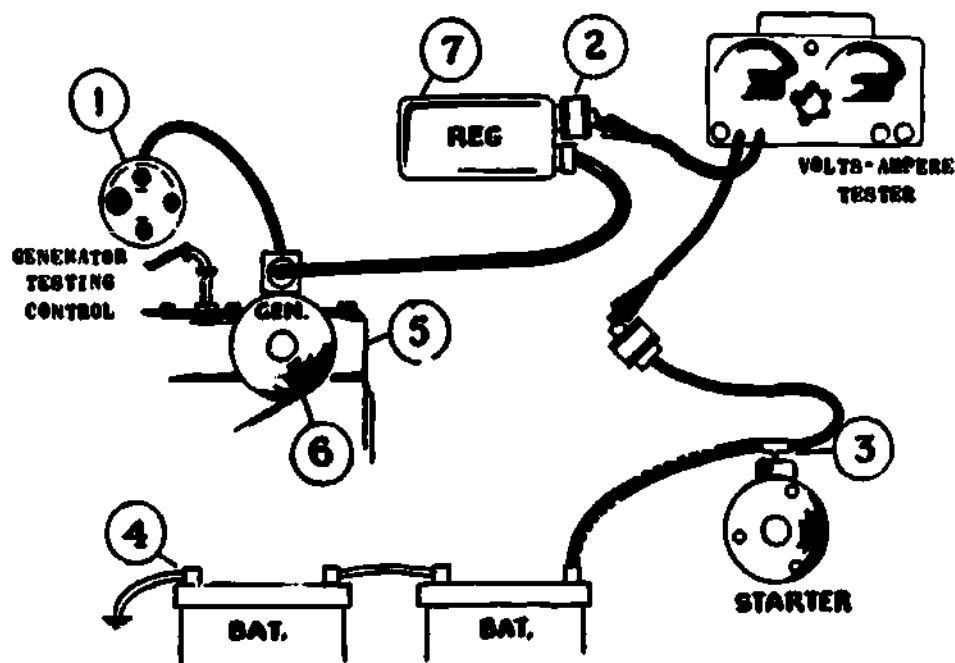

Fig 1-17. Locating charging system resistance.
3. Locating circuit resistance (fig 1-17). The procedures for locating charging circuit resistance are used only if the insulated circuit readings indicate there is excessive resistance. If the previous readings are within specified limits, there is no need to perform these tests.
Step 2. Use the voltmeter leads connected as outlined below and illustrated in figure 1-17 to check the resistance in the various parts of the circuit.